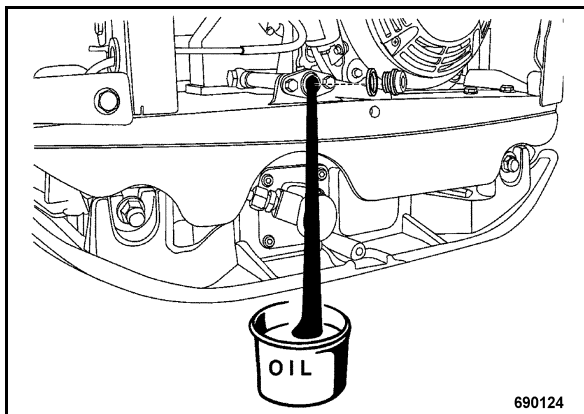

Fig. 41
- Unscrew the oil drain plug and catch running out old oil (Fig. 41).